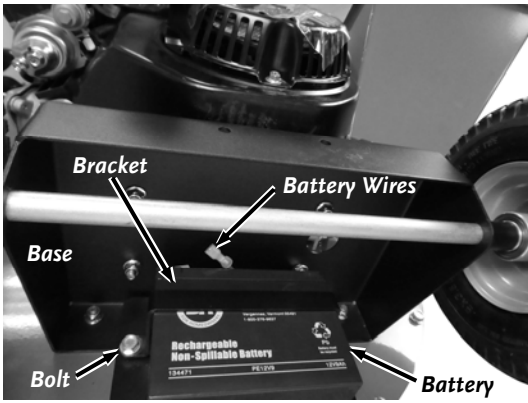

Figure 32
1. Remove the Bolts securing the Battery Strap using a 1/2" Wrench and carefully lower the Battery (**Figure 32**).